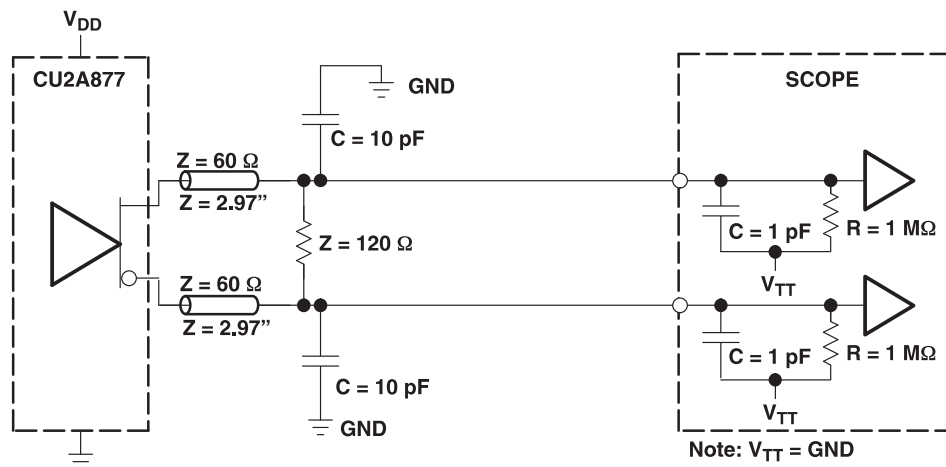
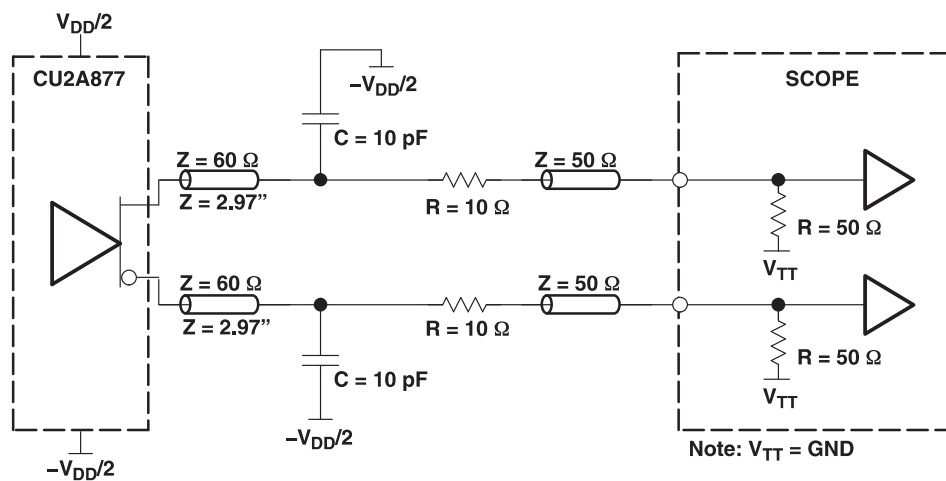
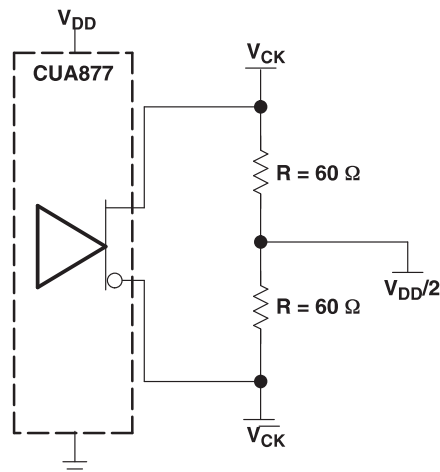

Figure 2. Output Load Test Circuit 1 (Using High-Impedance Probe)
Figure 3. Output Load Test Circuit 2 (Using SMA Coaxial Cable)
Figure 4. IBIS Model Output Load
- (1) There are two different terminations that are used with the following tests. The load/board in Figure 2 is used to measure the input and output differential-pair cross voltage only. The load/board in Figure 3 is used to measure all other tests. For consistency, equal length cables must be used.
- (2) This parameter is assured by design and characterization.
- (3) Phase static offset time does not include jitter.
- (4) For full frequency range of 160MHz to 410MHz.
- (5) Period jitter, half-period jitter specifications are separate specifications that must be met independently of each other.
- (6) In the frequency range of 271 MHz to 410 MHz, the minimum and maximum values of  $t_{jit(per)}$  and  $t_{(\phi)dyn}$  and the maximum value for  $t_{sk(o)}$  must not exceed the corresponding minimum and maximum values of the 160 MHz to 270 MHz range. In addition, the sum of the specified values for  $|t_{jit(per)}|$ ,  $|t_{(\phi)dyn}|$ , and  $t_{sk(o)}$  must meet the requirements for the  $\Sigma t_{(su)}$  and the sum of the specified values for  $|t_{(\phi)dyn}|$  and  $t_{sk(o)}$  must meet the requirements for the  $\Sigma t_{(h)}$ .
- (7) The output slew rate is determined from the IBIS model into the load shown in Figure 4.
- (8) To eliminate the impact of input slew rates on static phase offset, the input skew rates of reference clock input CK and  $\overline{CK}$  and feedback clock inputs FBIN and  $\overline{FBIN}$  are recommended to be nearly equal. The 2.5-V/ns skew rates are shown as a recommended target. Compliance with these typical values is not mandatory if it can adequately shown that alternative characteristics meet the requirements of the registered DDR2 DIMM application.
- (9) Output differential-pair cross voltage specified at the DRAM clock input or the test load.